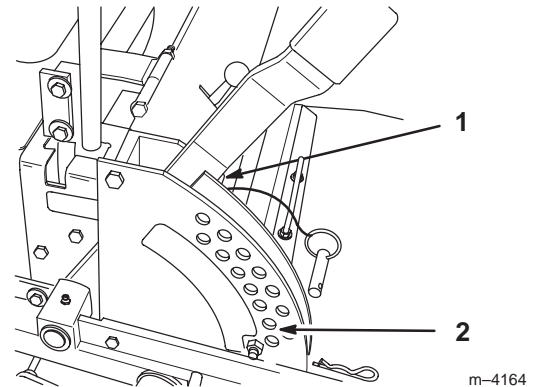

Figure 60
- Raise the deck to the transport position and take all force off of the two large deck lift springs by loosening nut in front of each spring (Fig. 60).
- Place two 1-1/2 inch (38 mm) thick blocks under rear left and right lower edge of mower. Place one 2-1/4 inch (57 mm) block under front center lower edge of mower. Lower mower to the 2 inch (51 mm) height-of-cut position (Fig. 60).
1. Raise deck lift lever to the transport position (Fig. 60).